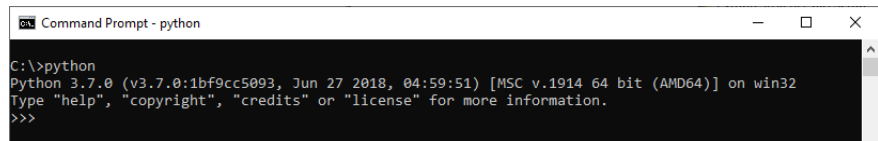

Figure 5 Python installation verification on command prompt window
- b On the root directory, type `python` and press <Enter>. See Figure 5.
6 On the command prompt window shown in Figure 5, enter the following commands to install the 'NumPy', 'SciPy' and 'Matplotlib' libraries: